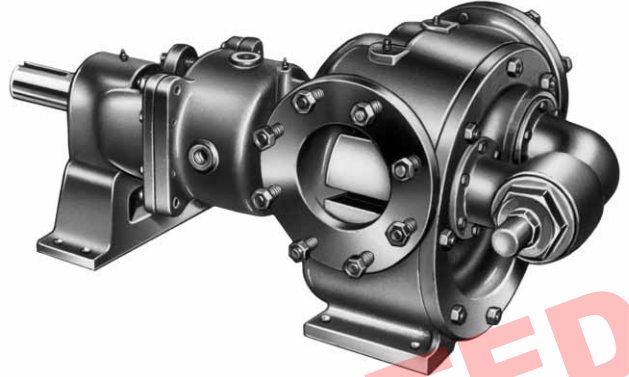

FIGURE 1
This manual deals only with Series 333 and 4333 Heavy Duty Steel External Pumps. Refer to Figures 1 through 20 for general configuration and nomenclature used in this manual. Pump specifications and recommendations are listed in Catalog Section 153, Series 333 and 4333 Heavy Duty Steel External Pumps.
4. Relief valve adjusting screw cap must always point towards suction side of pump. If pump rotation is reversed, remove pressure relief valve and turn end for end. **Refer to Figures 1 and 2.**